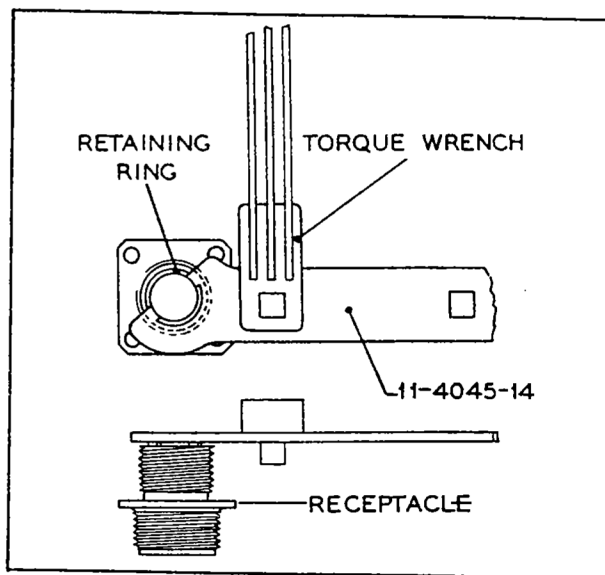

Figure 22
g. Hold plug shell with a mated receptacle shell and tighten the retaining ring with proper spanner wrench (figure 22). A series of spanner wrenches have been designed for this application. The basic tool number is 11-4045. The dash number indicates the tool size for use on the same connector shell size. As an example, the 11-4045-24 spanner wrench should be used to install retaining rings of all size 24 connector assemblies. Use the 11-2934 Torque Wrench or a standard torque wrench handle ($\frac{1}{4}$ inch drive) with the spanner wrenches. Tighten retaining ring to torque value indicated in Table III.